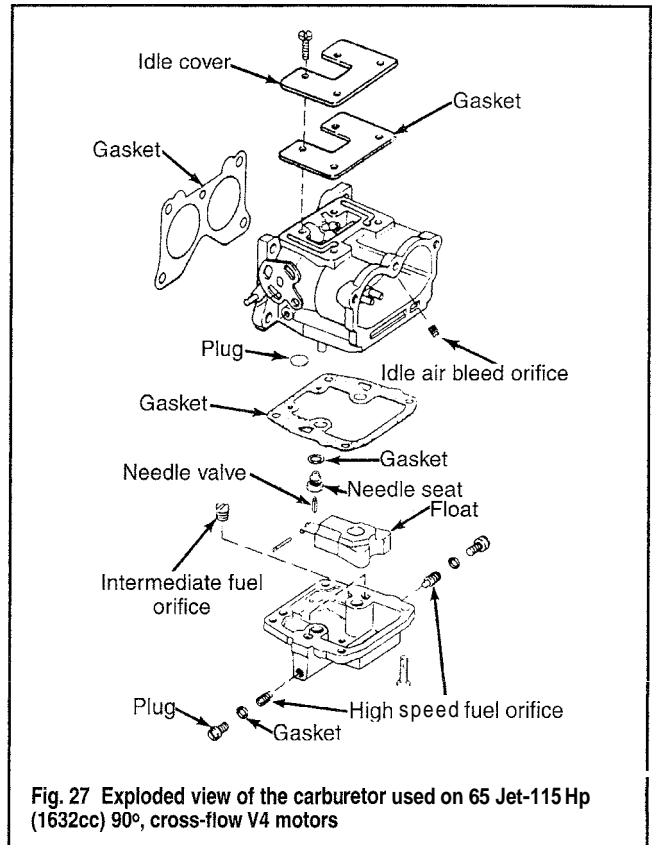

Fig. 27 Exploded view of the carburetor used on 65 Jet-115 Hp (1632cc) 90°, cross-flow V4 motors
◆ See Figure 27
◆ See Figures 27, 28, 29, 30, 31, 32 and 33
◆ See Figures 27, 34 and 35
- ◆ See Figures 27, 36, 37, 38, 39, 40, 41, 42, 43, 44 and 45